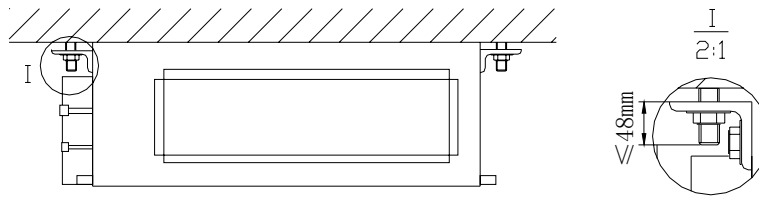

Fig. 3-2-5
- 3) Install indoor unit to the ceiling. See Fig. 3-2-5